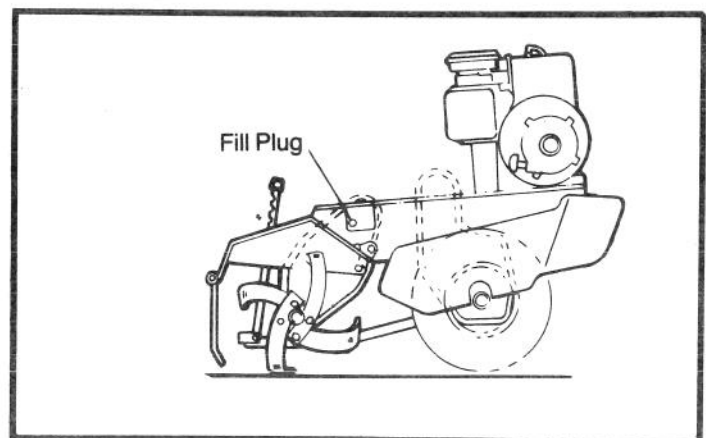

FIGURE 14B
- D. If oil isn't up to bottom of hole, wipe dirt away from oil fill plug and remove, Fig. 14B. Fill slowly with lead base (EP) SAE 140 heavy duty oil until proper level is reached. Replace oil level plug and oil fill plug. Wipe off excess oil.